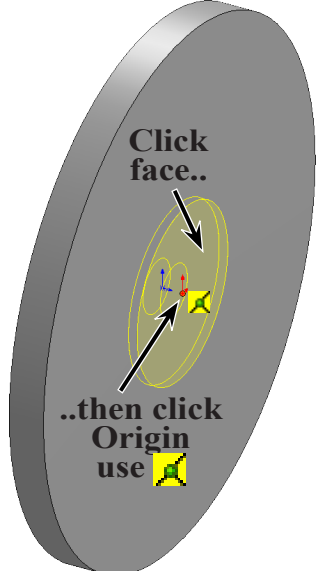

Fig. 11
Step 3. Click the **vertical side face of wheel** one time as face for holes, **Fig. 11**.
Step 4. Click the Origin . Use the coincident relation icon  to locate the Origin, **Fig. 11**.